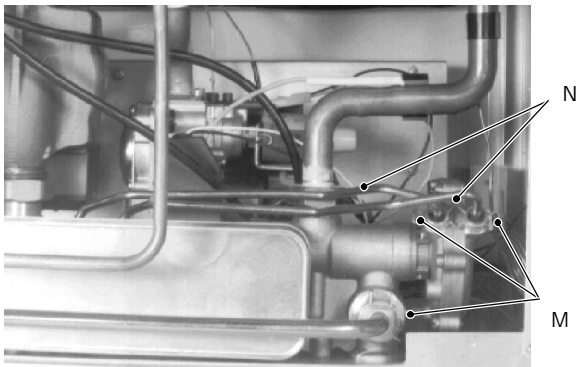

fig. 31
- 4 Remove the forks *M* and move away the pipes *N* (fig. 31).